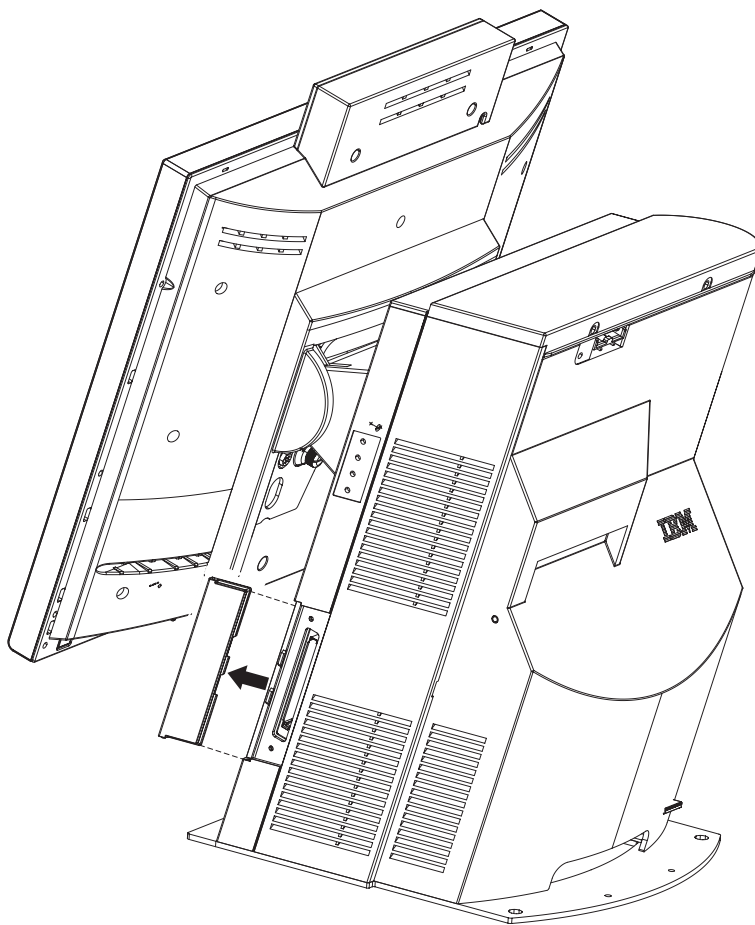

Figure 39. Removing the PC card cover
2. Bow door away from unit in the center by using the slot on the front of the door and then slide the door toward the front of the unit as shown in Figure 39.
2. Remove the PC card cover as shown in Figure 39.